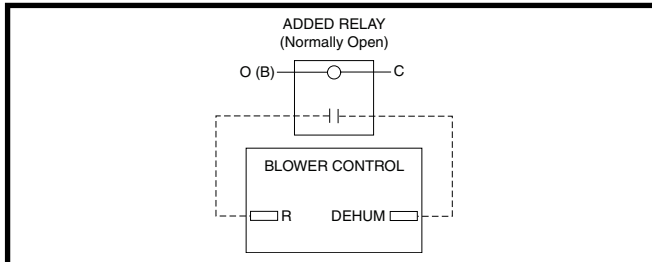

Figure 21. DEHUM Wiring Configuration without Humidistat
- If a humidistat is not available, it is an acceptable option to connect the **R** & **DEHUM** via a field supplied normally open relay. See Figure 21 \(page 23\). The **R** & **DEHUM** terminals should be connected across the normally open relay terminals. The **O (B) & C** terminals should then be connected across the relay coil. This option causes the blower to run at a reduced CFM for 10 minutes after a call for cooling.